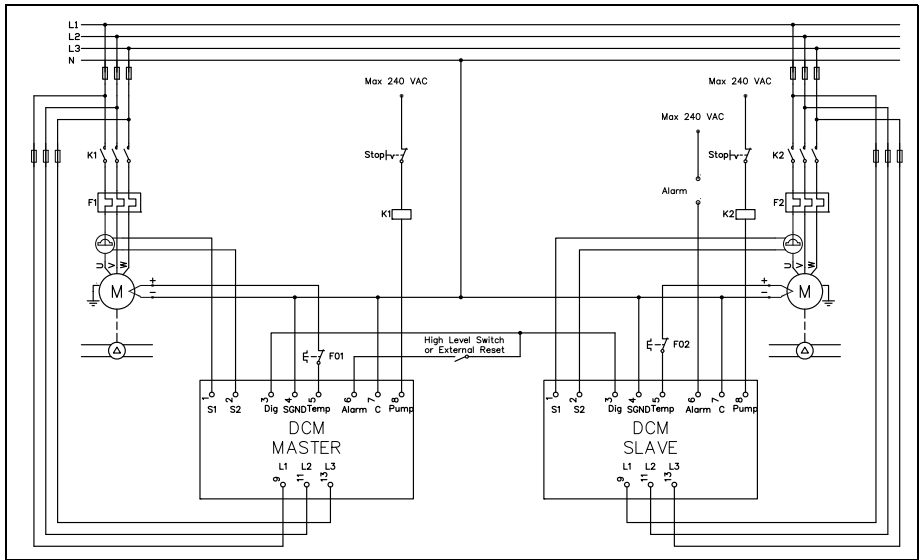

Fig. 16 Dual-pump example (alternatively, see the Appendix, Chapter 13)
Connect the main voltage from each pump to the respective DCM as described in Section 6.1.1, page 28. See Fig. 16.
Connect the current transformers (CTMs) from each pump to the respective DCM as described in Section 6.1.2, page 28. See Fig. 16.
Terminals 6 and 7 on the DCM SLAVE are the alarm relay connections. These terminals indicate an alarm if a fault is detected by the DCM MASTER or the DCM SLAVE. See Fig. 16. When powered off, the alarm relay is NC (normally closed). When powered on, NC or NO (normally open) can be selected. See Table 8, page 53, window 51.
Terminals 3 (DIG) and 4 (SGND) are connections for closing contacts and for communicating between the DCM MASTER and the DCM SLAVE. The digital input can be used for high-level switch or external reset. The high-level switch must be connected in series with the DCM MASTER terminal 6 (ALARM) and terminal 3 (C). When external reset is chosen use the pulse signal. Connect terminal 3 (DIG) on the DCM MASTER to terminal 3 (DIG) on the DCM SLAVE. Connect terminal 4 (SGND) on the DCM MASTER to terminal 4 (SGND) on the DCM SLAVE. See Fig. 16 and Table 8, page 53, window 53.
Connect the control signals for the start and stop equipment for each pump to the respective DCM as described in Section 6.1.4, page 29. See Fig. 16.
Connect the temperature sensor and/or motor protection for each pump to the respective DCM as described in Section 6.1.6. See Fig. 16.
1. In window 71 set the required function: dual-pump control MASTER (2) for one of the DCMs and for the other DCM dual-pump control SLAVE (3). The DCM MASTER must be the DCM that is wired for MASTER, see Fig. 16, page 34.
14. In window 53 on both DCMs, set the required function for the digital input (DIG), value (1) high-level switch, (2) external reset, see Section 7.1.4, page 35.
15. Connect the start and stop equipment to terminal 8, see Fig. 16, page 34.
If the pump is snoring and the high-level switch gives the signal to pump, this is a fault situation and an F4 alarm is generated and the ALARM relay is activated. If communication between the DCM MASTER and the DCM SLAVE is interrupted an F4 alarm is generated and the ALARM relay is activated. See Fig. 16, page 36 and Section 7.1.4, page 37.
It is also possible to connect a motor protection relay to generate an F5 alarm. See Fig. 13, page 27 and Fig. 16, page 36.